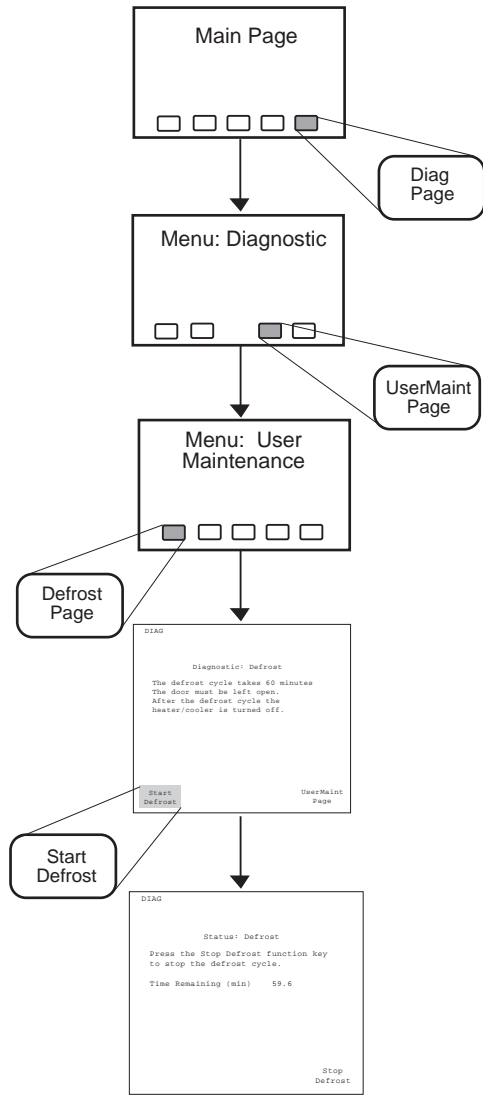

Figure 5-1 Defrost Menu Flowchart
1. Press the keys outlined in the figure below (Figure 5-1).